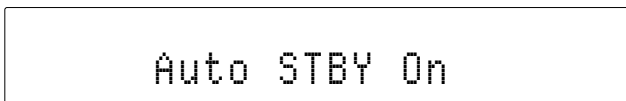

Figure 45
- To re-activate the Auto Off Feature, press and hold in the (Power) Push-button on the Remote Control for about 5-10 seconds, at which time the Front Panel Display indicates “Auto STBY On”. Refer to figure 45.